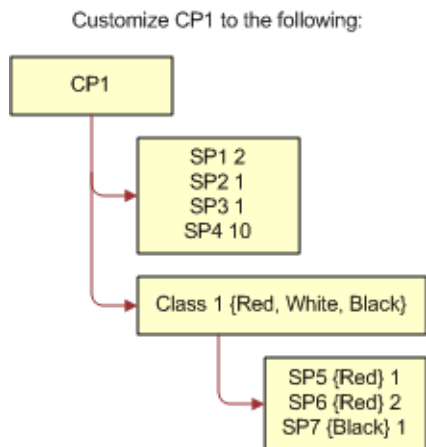

Figure 10. Customized CP1
- 2 CP1 is then customized as shown in Figure 10.
Figure 10 shows the customized CP1 with the following structure: CP1 has four simple product relationships defined (SP1, SP2, SP3, SP4) and a Product Class named Class 1. A further three simple product relationships (SP5, SP6, SP7) are defined and associated with Class 1. Class 1 is associated with an attribute with the values {Red, White, Black}. SP1 has a default quantity of 2, SP2 has a default quantity of 1, SP3 has a default quantity of 1, and SP4 has a default quantity of 10. SP5 has a default quantity of 1 and the attribute value Red. SP6 has a default quantity of 2 and the attribute value Red. SP7 has a default quantity of 1 and the attribute Black.
- 2 Add CP1 to a quote or an order line item, and then customize CP1 as shown in Figure 10.